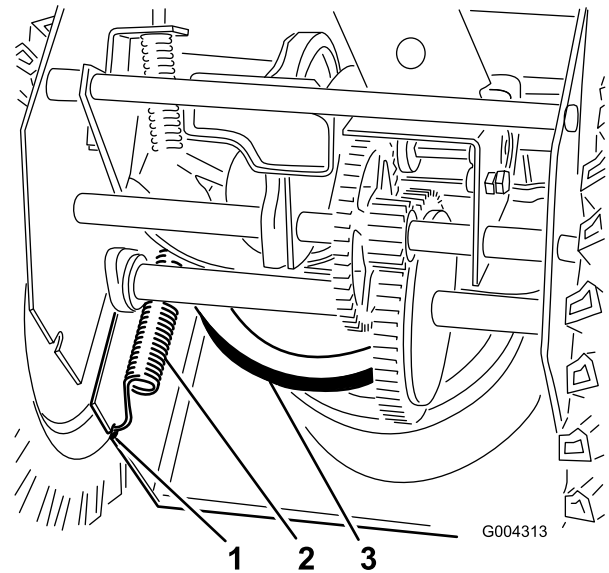

Figure 39
7. Disconnect the spring from the notch in the bottom edge of the side plate (Figure 39).
13. Hook the spring into the notch in the bottom edge of the side plate (Figure 39).